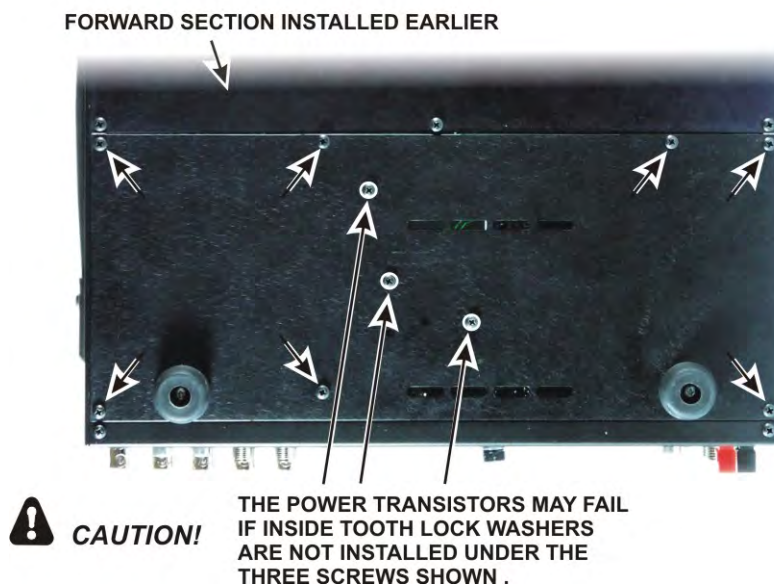

Figure 92. Checking Power Transistor Mounting Hardware.
- ☐ Install the rear bottom cover section as follows (see Figure 92):
- Start three 4-/40 1/4" (6.4 mm) black pan head screws (SS) into the transistors through the holes near the center with a #4 inside tooth lock washer under each screw head. Do not tighten the screws yet.
- Start seven 4-40 3/16" (4.8 mm) black pan head screws (SS) into the remaining holes. Do not use washers.
- ☐ Inspect the bottom cover screws to ensure you have inside tooth lock washers under the three screws shown in Figure 92. **Be sure all three screws are tight.**